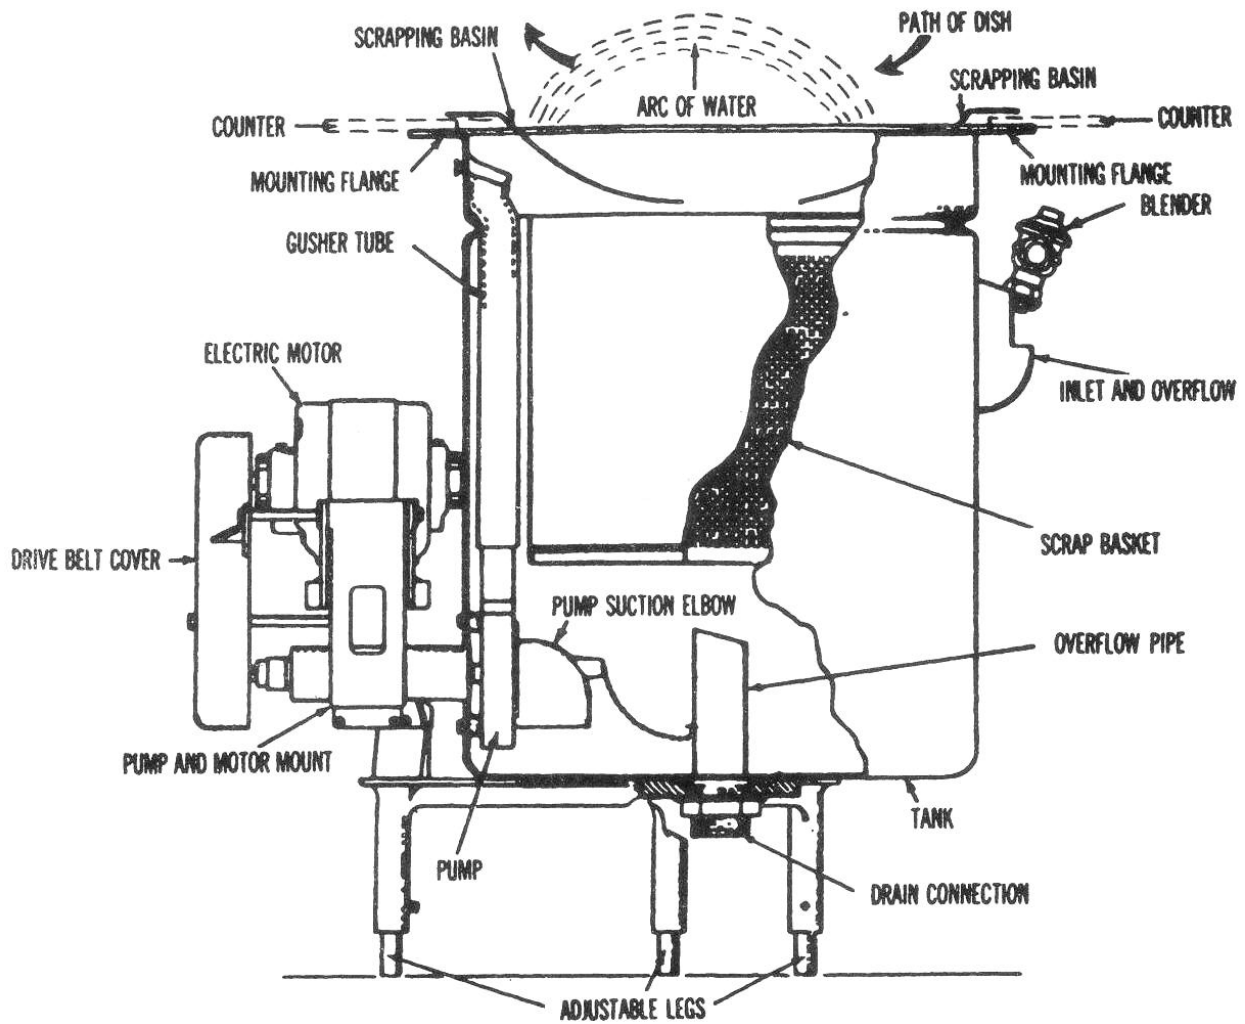

Figure 24. Cutaway diagram of a preflushing machine.
24. **PREFLUSHING MACHINE.** This machine (fig. 24) is used to remove food scraps and grease from plates and trays before they are placed in the dishwashing machine. The two major groups of components of the machine are the tank assembly and the power assembly. The tank assembly consists of a scrapping plate, a scrapbucket and a tank which is the reservoir for the flush water. The power assembly consists of a 1/6-horsepower motor that drives a rotary that forces water up through the gusher tube. The unit can be flush-mounted in the dirty-dish counter and is further supported by adjustable legs. Most of the components of the preflushing machine are stainless steel. The machine is equipped with a pump motor switch that starts and stops the electric motor, a pump intake plate that is set to control the height of the water column, and hot, cold, and blender water valves used to control the temperature and flow of water coming into the tank. The blender valve automatically mixes hot and cold water to a temperature of 115° F and discharges the mixed water at a steady rate of 1h gallons per minute. During operation water valves for hot and cold water are mounted on the incoming water lines, when the preflushing machine is installed. They are not part of the machine.